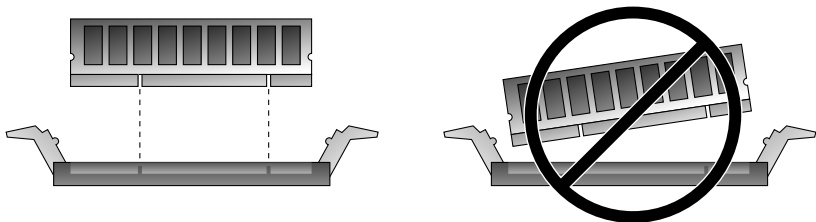

Figure 1-5 Correct DIMM Insertion
- 2. Push apart the ejection levers at each end of an empty DIMM connector on the motherboard (Figure 1-5).**
4. **Position the DIMM in the connector, ensuring that the alignment notches on the bottom of the DIMM are aligned with the connector alignment keys (Figure 1-5).**
Caution – Seating the DIMM into a slot unevenly can cause short circuits that damage the system. Ensure that all contacts engage at the same time. Do not rock the DIMM into place. You should hear a “click” when the DIMM is properly seated. See Figure 1-5.